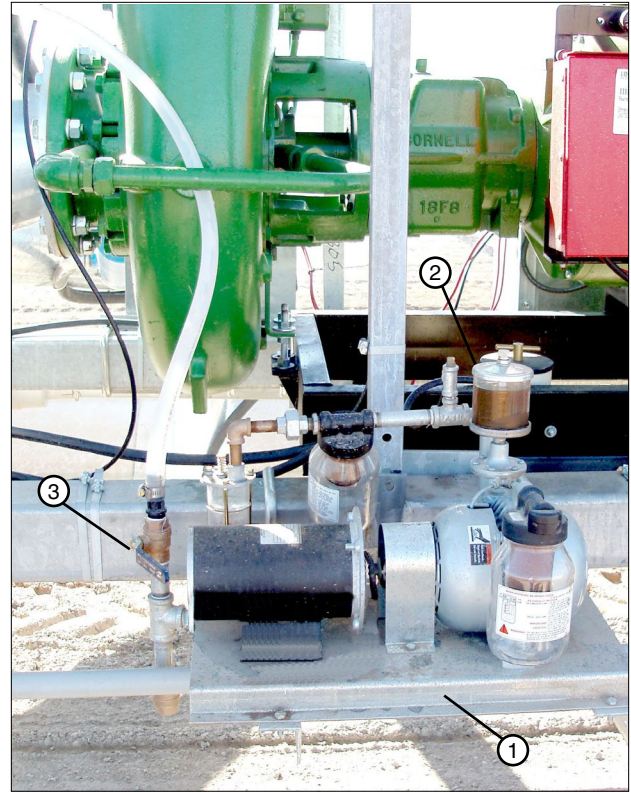

Figure 69-1 1. Electric Primer
The 50/60 Hz AC Voltage Electric primer is used for priming of pump installations with suction inlets in an Electric Cord / Motor Pump Application. See Figure 69-1.
1. Fill the automatic bearing oiler with lightweight oil, SAE 10W. See Figure 69-1.
3. Open the ball valve on the electric primer. See Figure 69-1.